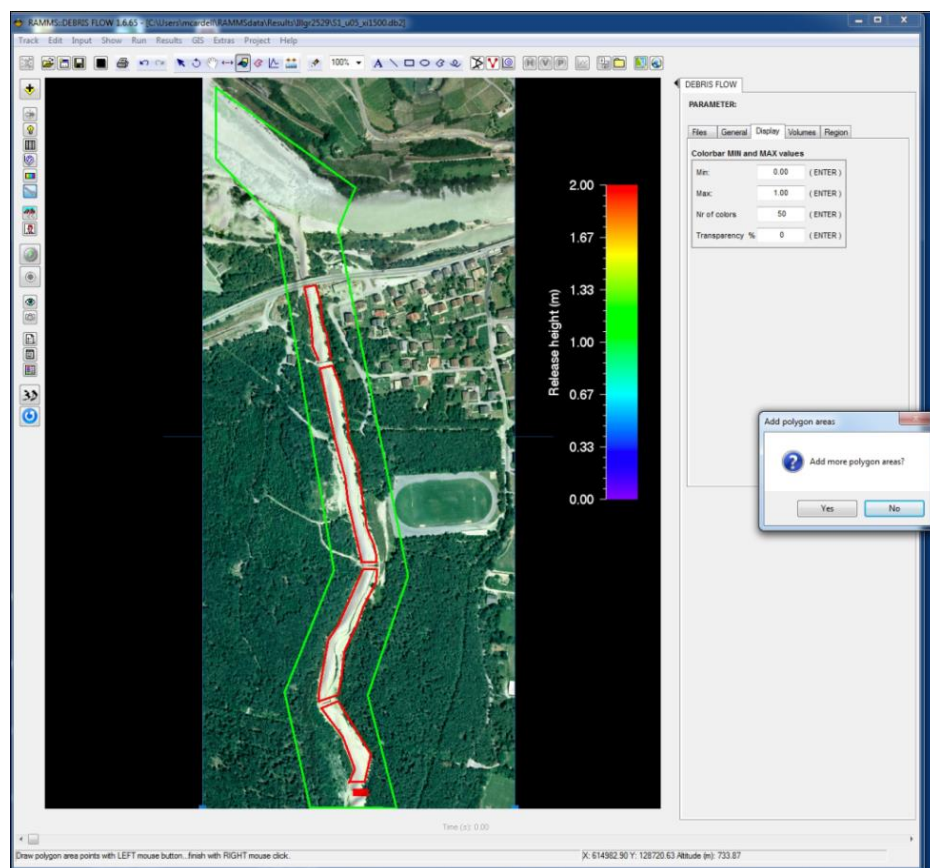
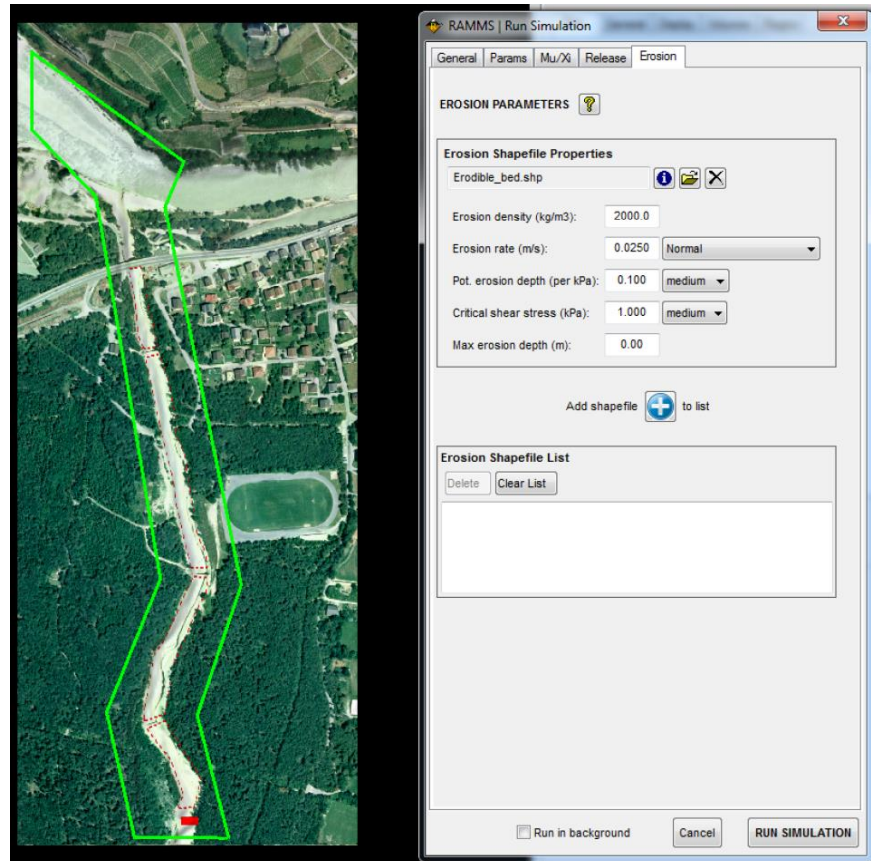
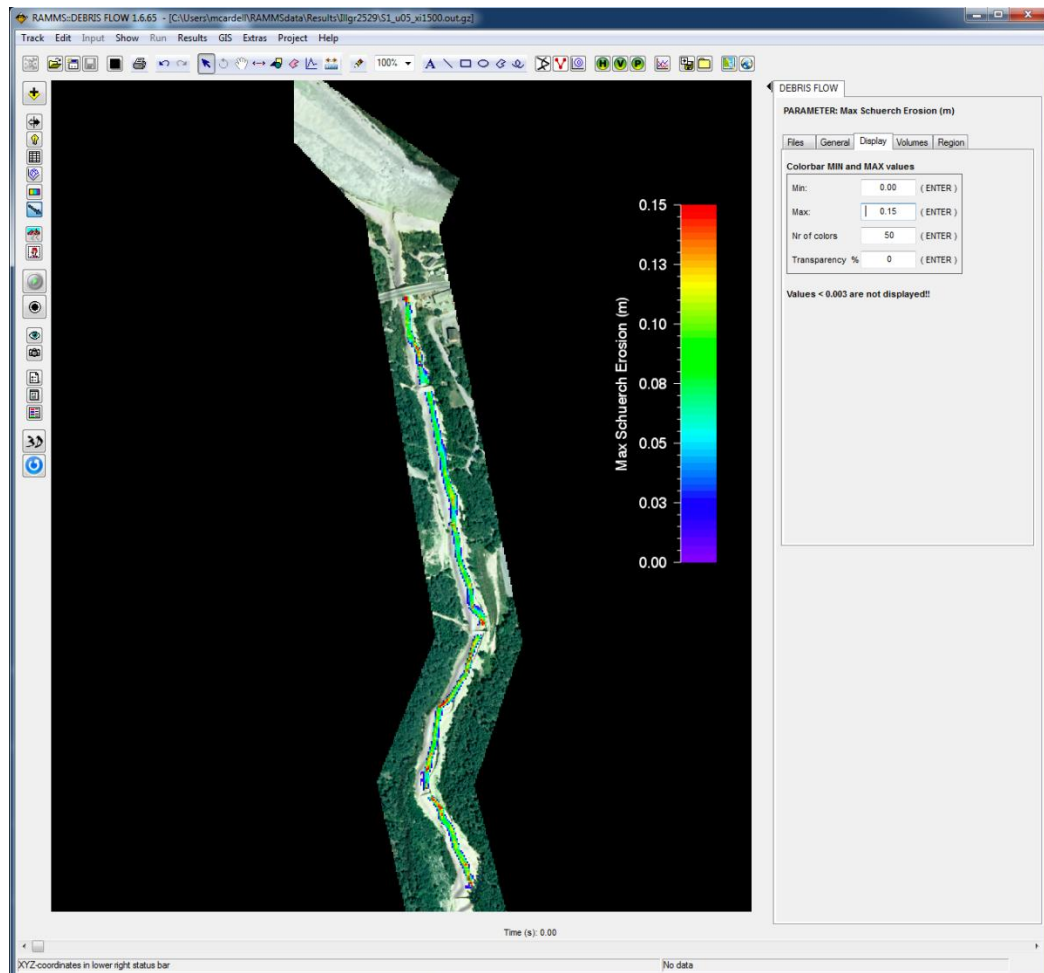

Figure 5.4: Adding erosion polygon areas.
Figure 5.5: Erosion parameters.
Figure 5.6: Simulated channel-bed erosion.
Step 2: Define where erosion can take place. Select the menu option **Input** → **Polygon shapefile** → **Draw New Polygon Shapefile** and draw the first polygon. After closing the first polygon with a left-mouse-click, choose the option **Add polygon areas**, and repeat this procedure until all desired polygons have been drawn. After adding the final polygon (in this case the fourth one) click on the “No” button and name the polygon (Figure 5.4). Once this step is completed, the erosion properties within this shapefile can be set in a different dialog box (Step 3, Figure 5.5). Although not illustrated here, it is possible to create multiple shape files with different erosion parameters within each shape file.
Step 3: Set erosion parameters. To set the erosion parameters used during the simulation, select **Run** simulation and then click on the **Erosion** tab. Click on the folder icon and select the polygon shapefile (in this case *erodible_bed.shp*, Figure 5.5). After selecting the erosion parameters, click on the button **Add shapefile to list**. The default values are proposed, however they can be edited if desired.
The predicted channel-bed erosion for this case is illustrated in Figure 5.6. Here one can clearly see (in comparison with Figure 5.4) that erosion has taken place only within the user-specified polygons within the erosion shape file, and not on the check dams separating the individual polygons.